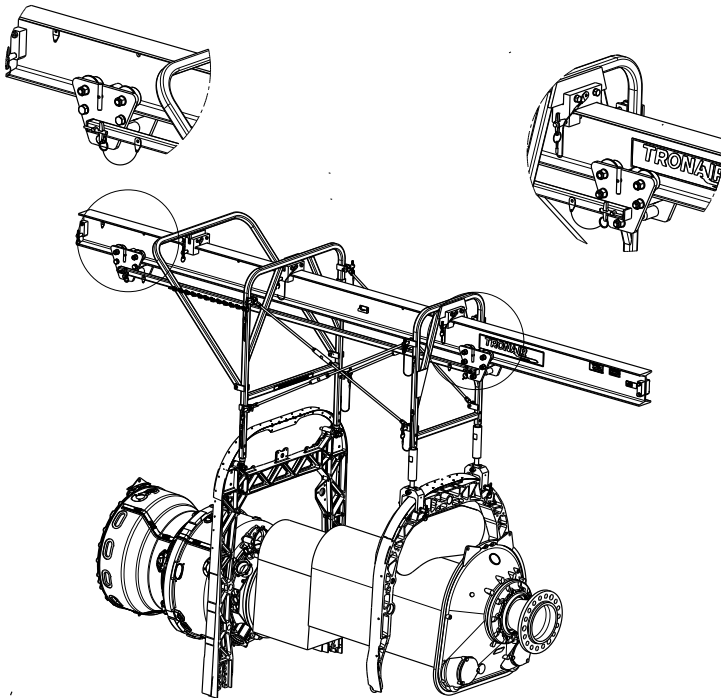

FIGURE 6
11. Install the trolley spreader bar onto the hoist. **Reference Figure 6.**